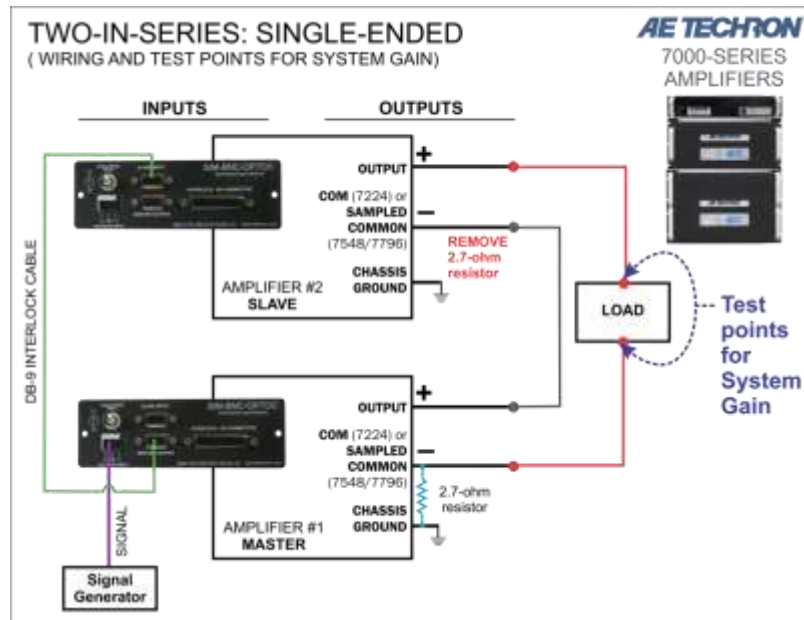

Figure 3.15 – Verifying System Gain
4. Apply a sine wave of 5Vrms at 100 Hz at the Master amplifier input. Using a voltmeter, measure across the system load to verify an output from the system of approximately 200Vrms. See **Figure 3.15**.